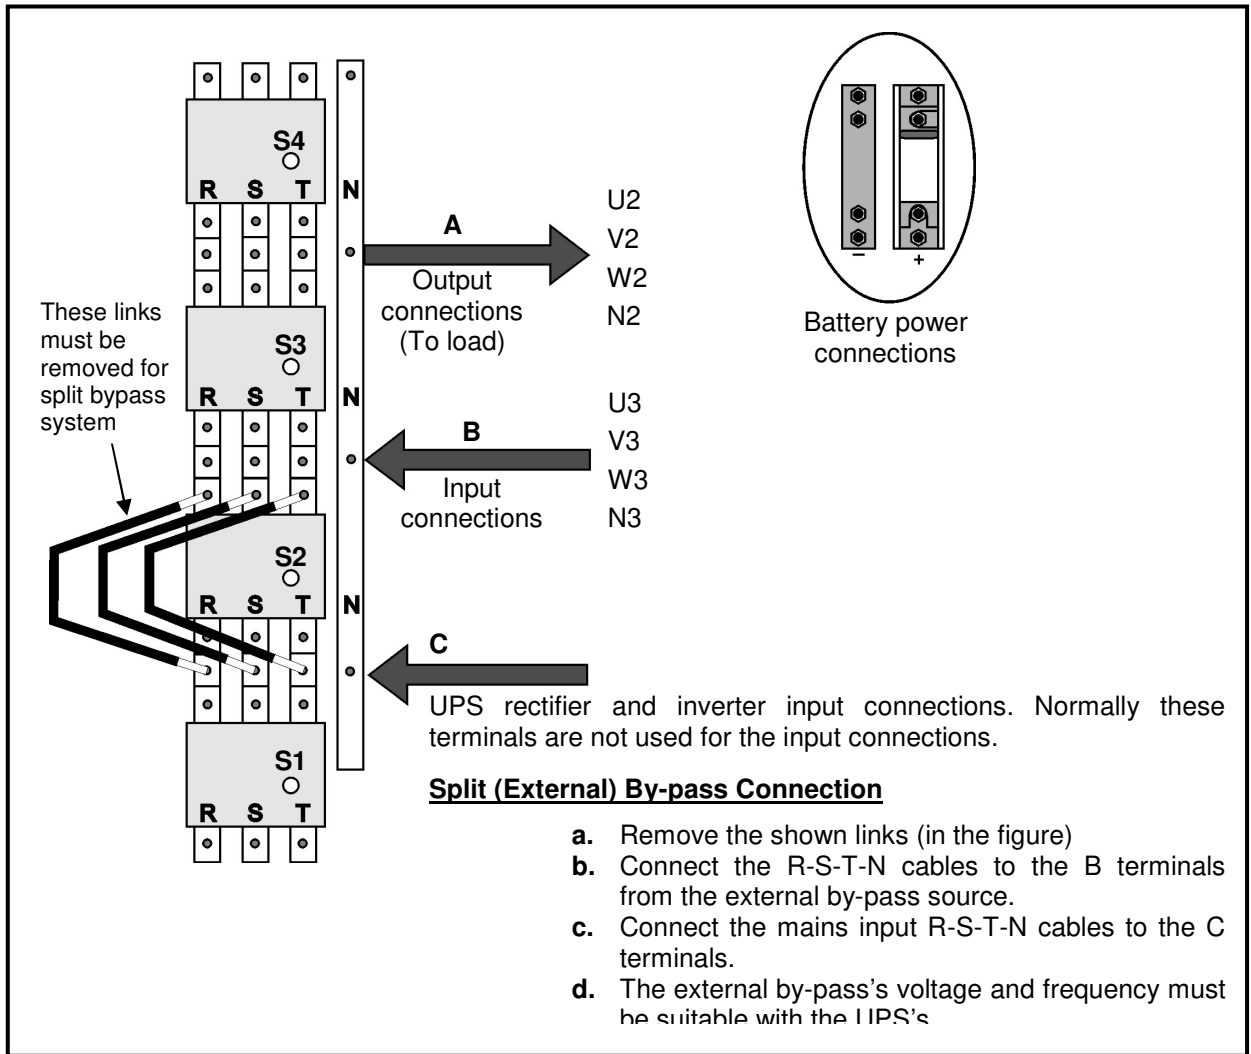

Figure 5-2 100-120-150-160-200 kVA UPS Power Connections
2. Connect the A.C. input supply cables between the mains distribution panel to the B terminals as in Fig. 5-2.